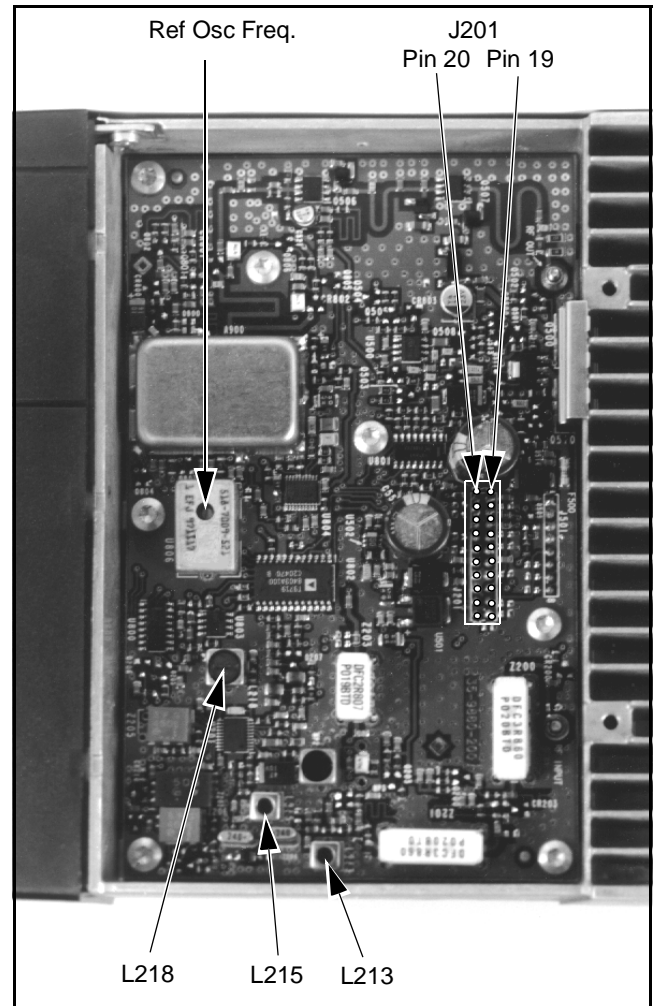

Figure 7-4 Alignment Points Diagram
3. Manually adjust the variable capacitor in reference oscillator U806 for the displayed frequency ± 100 Hz (see Figure 7-4).
3. Remove the top cover. Connect a DC voltmeter to J201, pin 19 (see Figure 7-4).